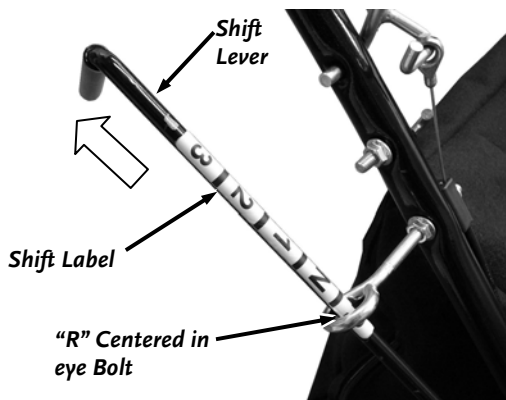

Figure 19
22. Pull the Gear Shift Rod all the way towards you to lock it into the "Reverse" position (**Figure 19**).